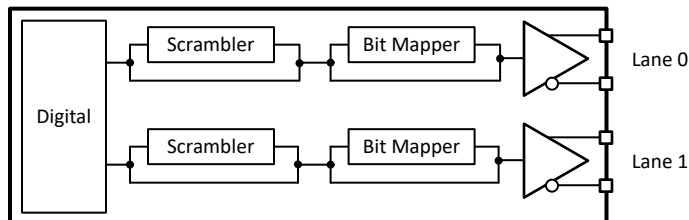

**Figure 8-45. 1/2-wire output bit mapping**
**1/2-wire mode:** The output is only lane DA0 and the sample order is programmed into the 40 addresses of chA (from 0x39 to 0x60). It covers 2 samples (one for chA, one for chB) as shown below. If desired, it can be duplicated on DB0 as well (using addresses shown Figure 8-45) in order to have a redundant output. Lane DB0 needs to be powered up in that case.